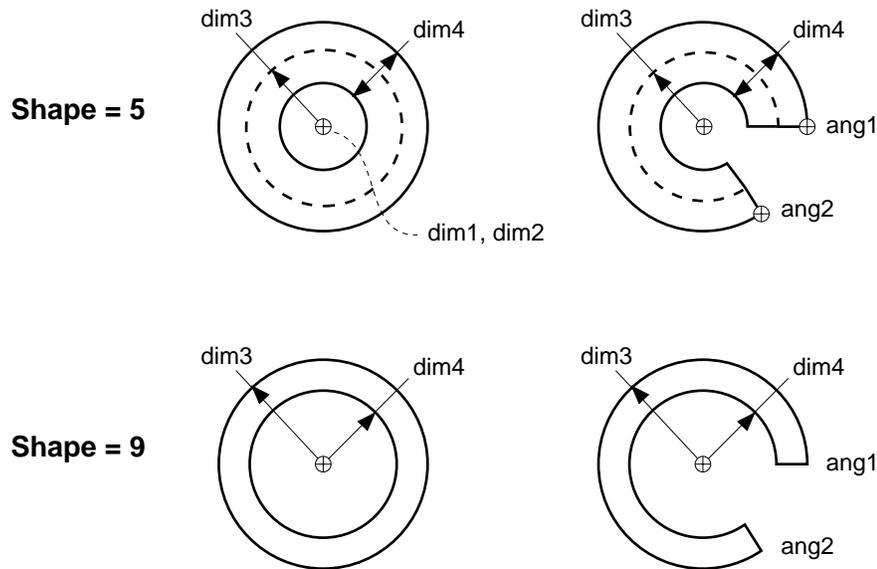

Figure 6-2. Arc-Shaped Area-of-Interest Shapes
- shape** defines the shape of the area-of-interest. The most common shapes are shown in Figures 6-2 and 6-2. See the *AdeptVision Reference Guide* for a complete description of the shapes.
Figure 6-2 shows the most common shapes for rectangular tools. Shape 1 is the normal shape for rectangular areas such as windows, line finders, point finders, etc. Shape 2 is the normal shape for rulers.1 Figure 6-2 shows the most common shapes for arc-shaped tools. Shape 5 is the normal shape for arc finders, and shape 9 is the normal shape for circular inspection windows.